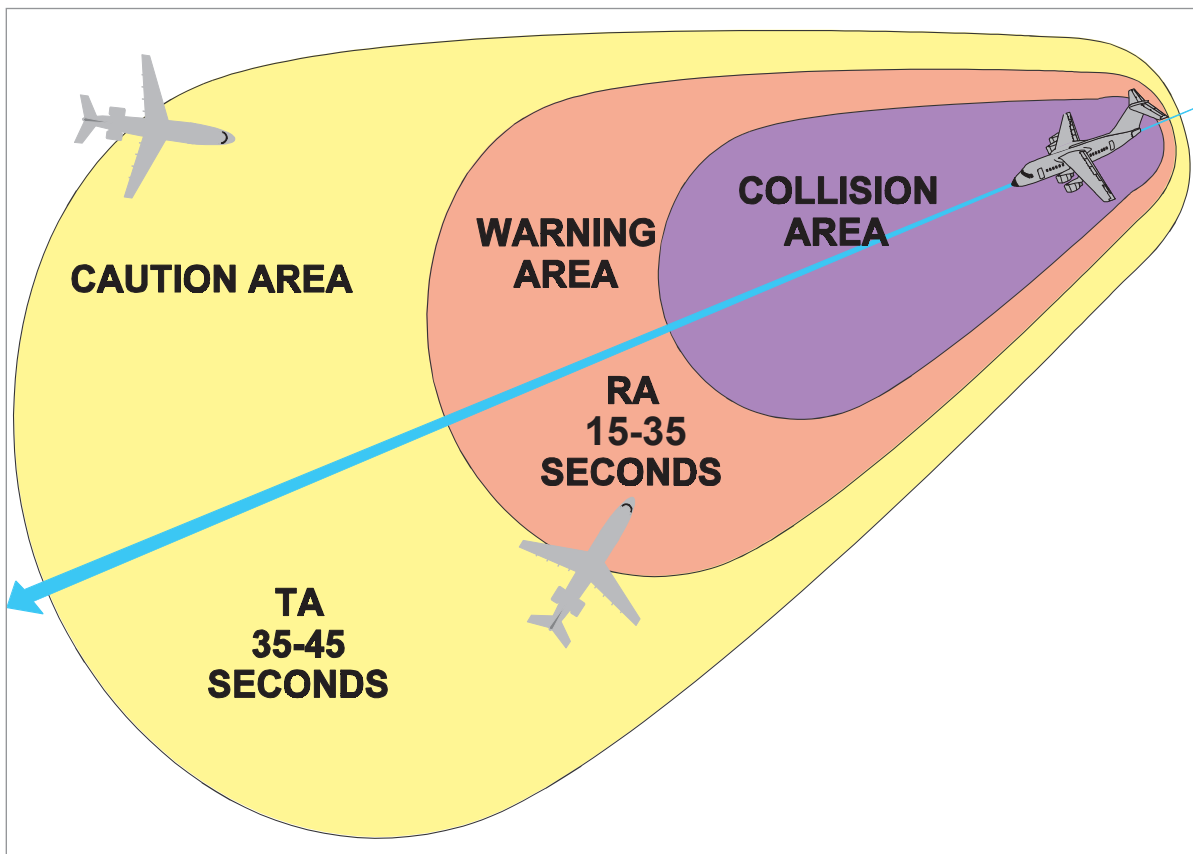

Figure 35.4
- b) **Resolution Advisories (RAs)** exist when an intruder penetrates the inner bubble warning area and is between 35 and 15 seconds from the collision area. RAs appear as **solid red rectangles** on the TCAS display accompanied by various synthetic voice warnings. RAs indicate a serious collision threat. (See Figure 35.4).